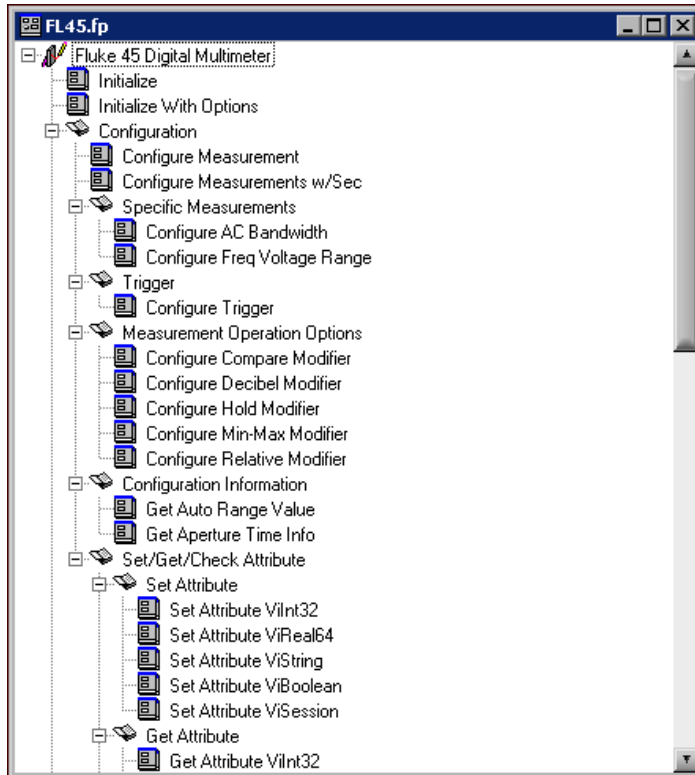

Figure 5-16. Fluke 45 Function Tree
1. Select **File»Open»Function Tree (*.fp)** to open the fl45.fp function panel file. The function tree appears, as shown in Figure 5-16.